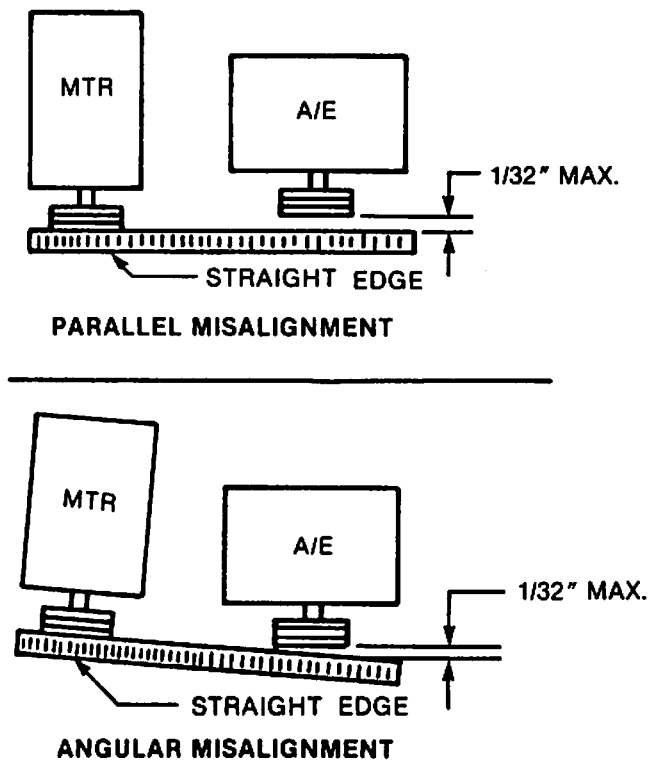

Figure 13
Parallel misalignment occurs when the driver and driven shafts are parallel, but the two sheaves lie in different planes (See Figure 13).
Angular misalignment occurs when the two shafts are not parallel (See Figure 13).
3. Alignment should be within .03 inch maximum when measuring the gap between the straight edge and the rim of the opposite sheave (See Figure 13) in each direction.